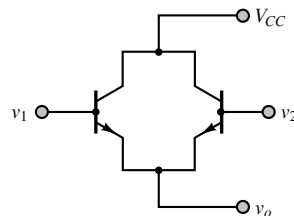

Figure P10.51
10.51 Show that when two or more emitter-follower outputs are connected to a common load, as shown in the circuit of Figure P10.51, the OR operation results; that is, $v_o = v_1 \text{ OR } v_2$.